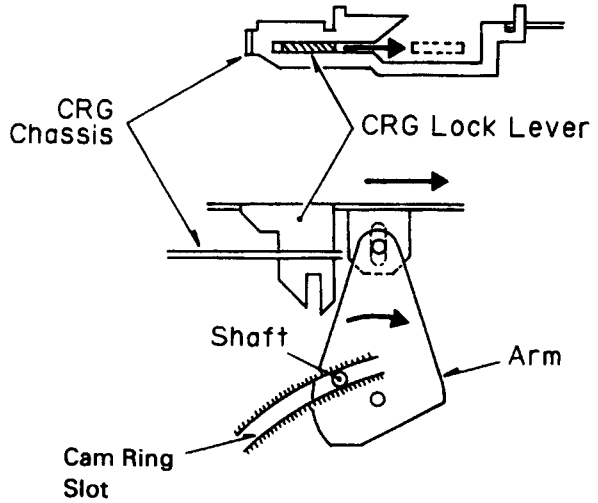

Fig.22
① The cam ring turns causing the arm to rotate. The contraction of the arm tip and the CRG lock lever's slot are interlinked. When the arm turns, the CRG lock lever slides, thus releasing the CRG chassis's lock (up/down direction).(Fig. 22)